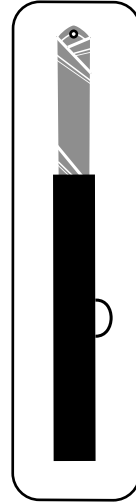

Figure 10: Sleeve end first into bag.
- Insert your sail sleeve-end first into the sail bag (figure 10).